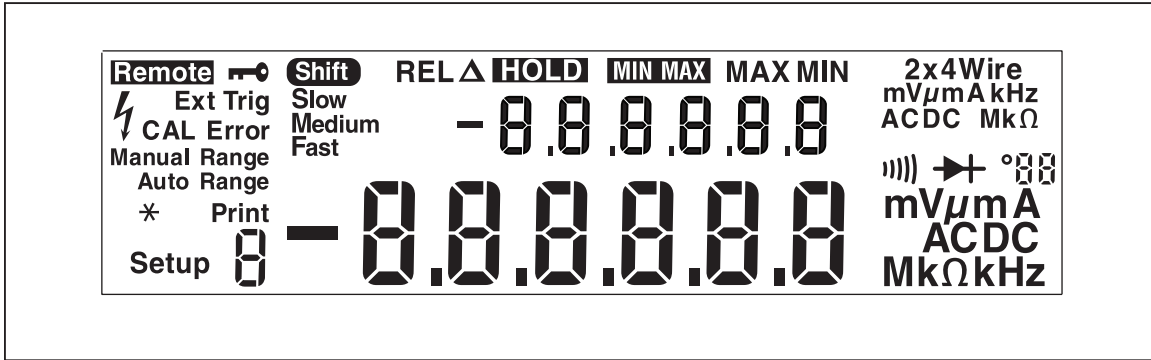

Figure 2-3. Display Elements
The display test consists of turning on all the display elements and checking what appears in the display with Figure 2-3. To turn on all the display elements:
4. Check the elements of the display against those elements appearing in Figure 2-3.